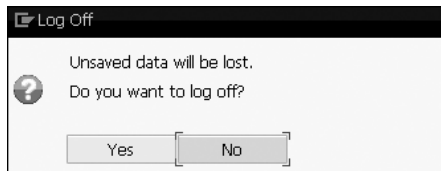

Figure 5.15 Confirming Log Off
- 2 Confirm the **Unsaved data will be lost. Do you want to log off?** message by clicking **Yes** (Figure 5.15).